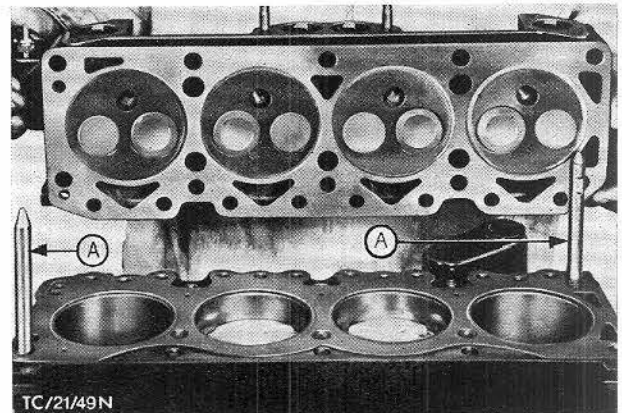
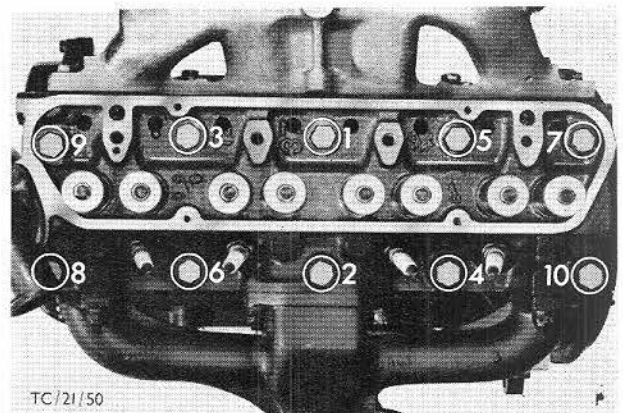

Fig. 58. Fit cylinder head with aid of locating studs.
Fig. 59. Cylinder head bolt tightening sequence.
63. Fit cylinder head, Fig. 58 and tighten bolts finger tight. Replace the two locating studs by the last two bolts. Torque cylinder head bolts as specified in three stages proceeding in sequence shown in Fig. 59 (see Technical Data).